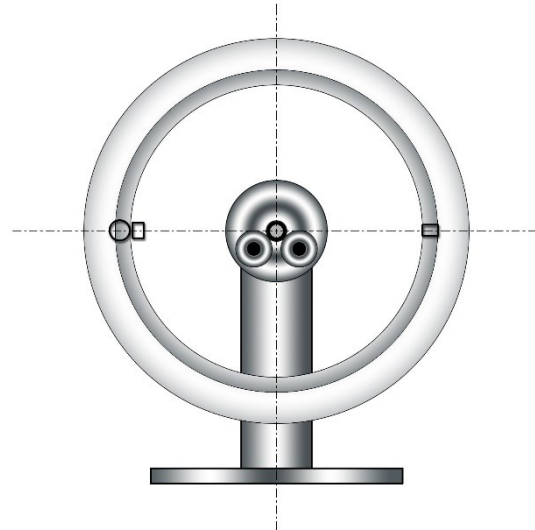

Figure 2 Resting position neutral rim
Abb./Afb./Avb./Fig. 2
5. At the lightest point, add so much to the provisional weight that the rim will turn by about 90° (see fig. 2). For an empty engine wheel rim, a maximum of 30 g of balancing weight should be required. If you need more weight, then you should check the rim and the attachments for damage. Check the height.